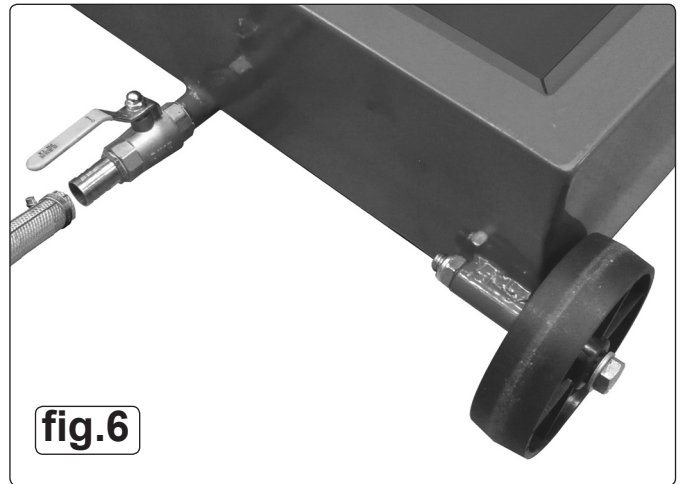

fig.6
- 4.3.1 GRAVITY DISCHARGE (AK467D) Attach the discharge hose (see fig.1) to the outlet valve at the rear end of the drainer and secure it with the worm drive clip provided. See fig.6. Place the other end of the pipe into a suitable container set at a lower level than the drainer pan and open the outlet valve. When the drainer pan is empty close the valve.